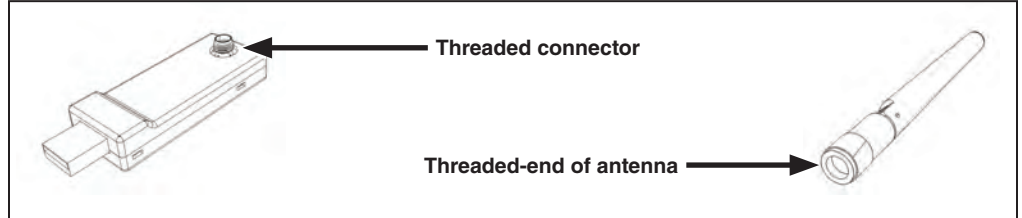

Figure 10. Connecting the antenna to the USB transceiver.
**STEP 1.** Screw the threaded bottom of the antenna onto the threaded connector on the USB transceiver. See Figure 10.